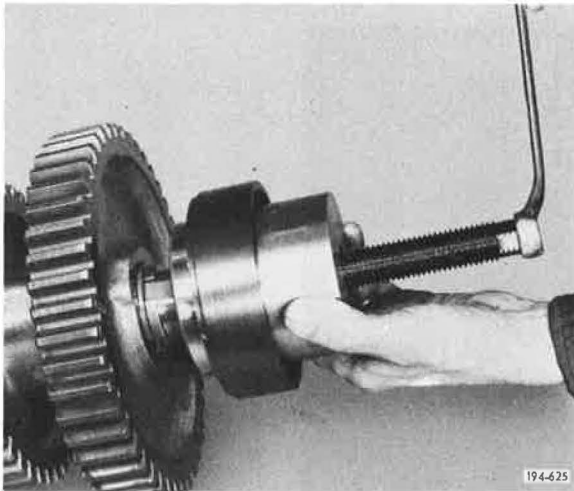

Figure 129. Removing Bearing
2. Remove countershaft front bearing, using puller S593C. See Figure 129.